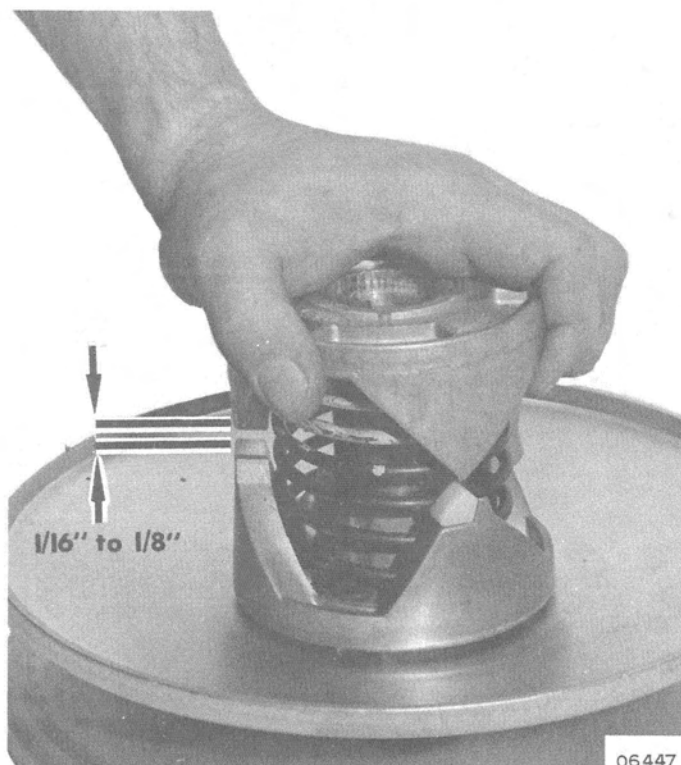

Figure 4. Installing Torque Bracket
5. Compress spring until  $1/16''$  to  $1/8''$  clearance is obtained between ramps. (Figure 4)